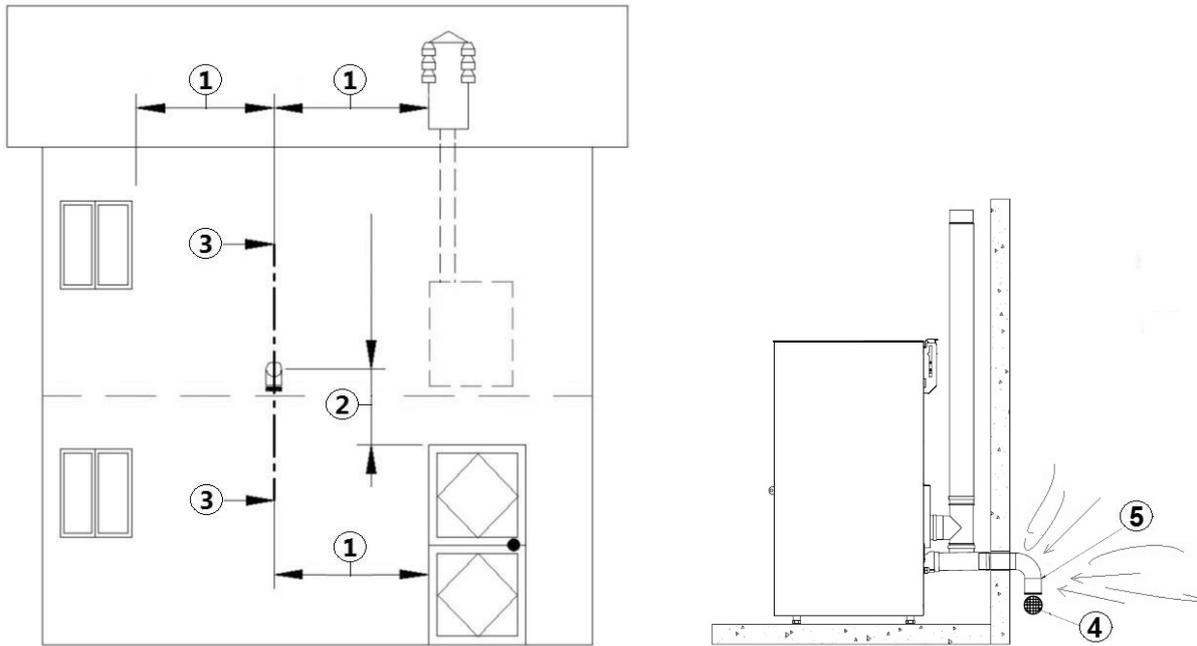

Fig. 10 - Air inlet for sealed-chamber installation
LEGEND	Fig. 10
- On the external wall it is necessary to install a curve at 90° to protect the combustibles air inflow from wind effects: turn the curve inlet downwards, see **Fig. 10**.